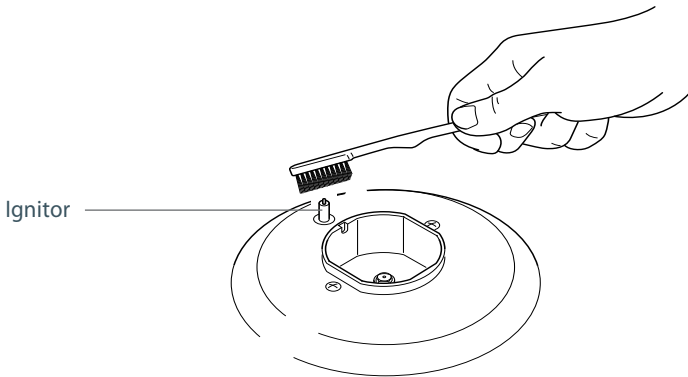

Fig. 26 Cleaning the ignitor
- The ignitors are sparking. If the ignitors are not sparking, they may be dirty or wet. Clean them with a toothbrush and methylated spirits, as shown in Fig. 26.
- Check that the ignitor is always clean to ensure trouble-free sparking. Clean it carefully with a toothbrush and methylated spirits (see Fig.26).